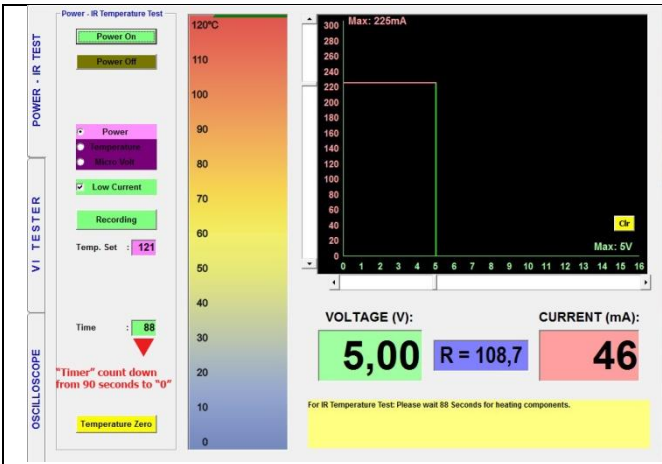

Figure 45: Timer 90 Seconds (Step 3)
**Note:** in the IR Temperature Test, the electronic circuit board may also be energized by clicking the "Power On" Button. (Figure 45)
4. When the Voltage limitation is reached, if the Electronic circuit board is drawing current, the "Timer" starts counting down from "90" seconds to "0". (Figure 45)